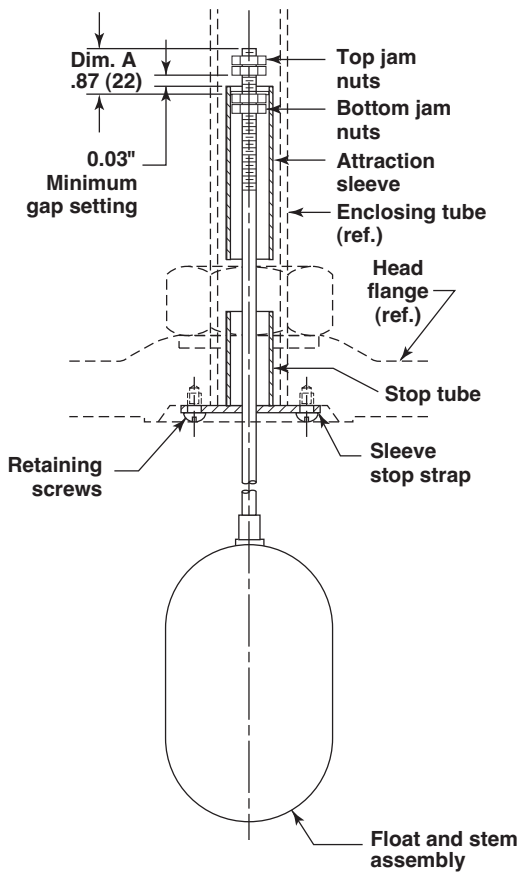

Figure 8
NOTE: New float and stem kits are supplied unassembled. Refer to **Figure 8** for standard jam nut settings (Dimension A).
- c. Set attraction sleeve per Dimension A as shown in **Figure 8**.